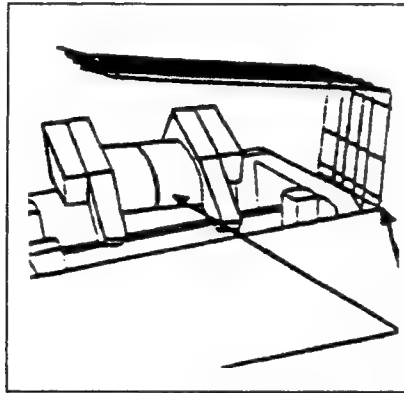

Figure 2-9. Remove Backstop & Forms Break
- d. Lift out the backstop and forms break, and remove the two attached foam pieces (Figure 2-9).